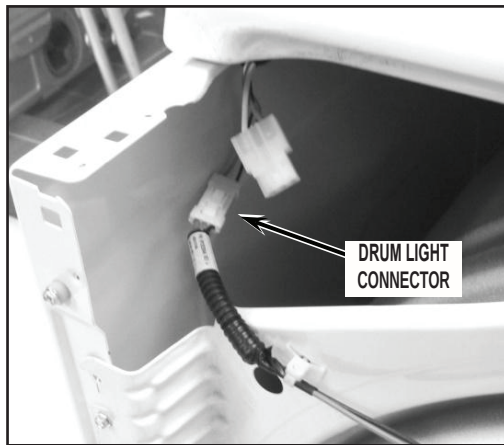

FIGURE 5
6. Disconnect the drum light connector located in the top left front corner of the dryer. See *Figure 5*.